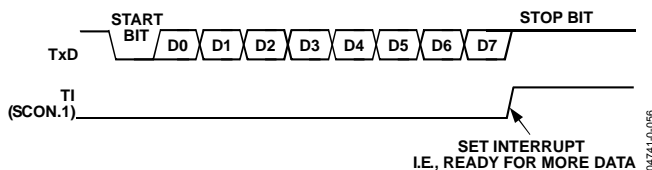

Figure 77. 8-Bit Variable Baud Rate
Transmission is initiated by a write to SBUF. Next a stop bit (a 1) is loaded into the 9th bit position of the transmit shift register. The data is output bit-by-bit until the stop bit appears on Tx/D and the transmit interrupt flag (TI) is automatically set as shown in Figure 77.